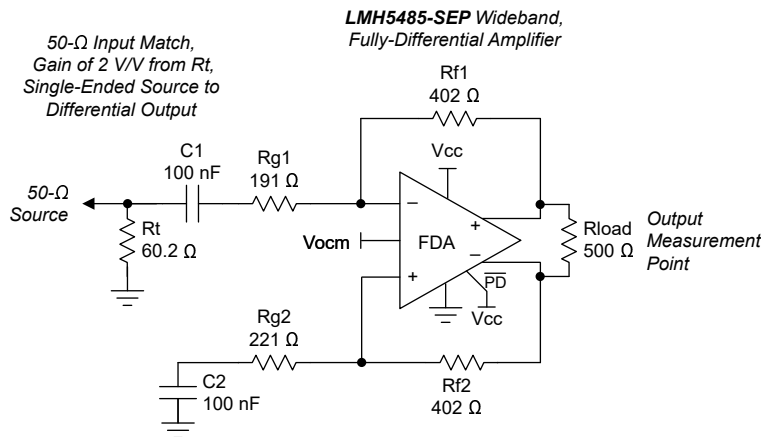
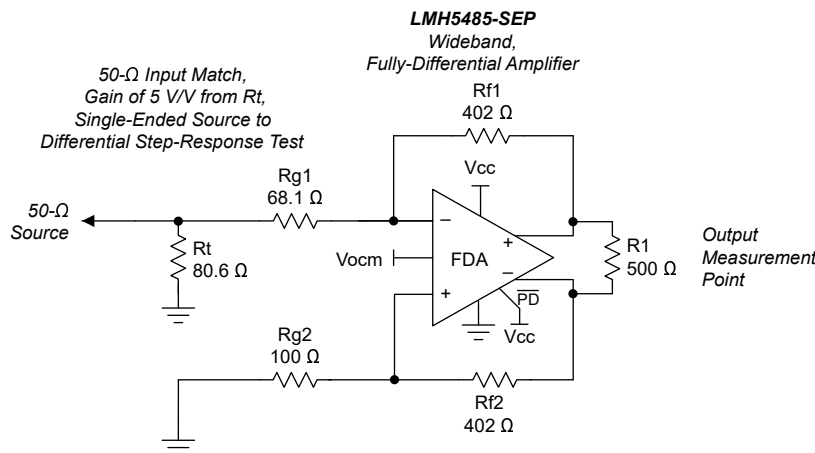

Figure 8-1. AC-Coupled, Single-Ended Source to a Differential Gain of a 2 V/V Test Circuit
Figure 8-2. DC-Coupled, Single-Ended-to-Differential, Basic Test Circuit Set for a Gain of 5 V/V
Single-ended input to differential output, simulated differential output impedance, see Figure 8-1
Single-ended input to differential output, gain of 2 (see Figure 8-1), simulated with 1% resistor, worst-case mismatch
Single-ended to differential, gain of 2 (see Figure 8-1) PSRR simulated to differential output
The LMH5485-SEP offers the advantages of a fully differential amplifier (FDA) design, with the trimmed input offset voltage of a precision op amp. The FDA is an extremely flexible device that provides a purely differential output signal centered on a settable output common-mode level. The primary options revolve around the choices of single-ended or differential inputs, AC-coupled or DC-coupled signal paths, gain targets, and resistor Value selections. Differential sources can certainly be supported and are often simpler to both implement and analyze. Examples of both AC and DC coupled single-ended to differential circuits is shown in Figure 8-1 and Figure 8-2.
Figure 8-1 shows how most characterization plots fix the R_f value at 402 Ω. This value is completely flexible in application, but the 402 Ω provides a good compromise for the issues linked to this value, specifically:
- Added output loading. The FDA appears like an inverting op amp design with both feedback resistors as an added load across the outputs (approximate total differential load in Figure 8-1 is 500 Ω || 804 Ω = 308 Ω).
The outputs offer near rail-to-rail output swing (0.2 V headroom to either supply), while the device inputs are negative rail inputs with approximately 1.2 V of headroom required to the positive supply. Figure 8-2 shows how this negative rail input directly supports a bipolar input around ground in a DC-coupled, single-supply design. Similar to all FDA devices, the output average voltage (common-mode) is controlled by a separate common-mode loop. The target for this output average is set by the V_{OCM} input pin that can be either floated to default near mid-supply or driven to a desired output common-mode voltage. The V_{OCM} range extends from a very low 0.91 V above the negative supply to 1.1 V below the positive supply, supporting a wide range of modern analog-to-digital converter (ADC) input common-mode requirements using a single 2.7 V to 5.4 V supply range for the LMH5485-SEP.
Going to the device input pins side, because both the source and balancing resistor on the nonsignal input side are DC blocked (see Figure 8-1), no common-mode current flows from the output common-mode voltage, thus setting the input common-mode equal to the output common-mode voltage.
Operating the LMH5485-SEP at a low DC noise gain, or with higher feedback resistors, can cause a lower phase margin to exist, giving the response peaking shown in Figure 10-3 for the gain of 0.1 (a 1/10 attenuator) condition. Although it is often useful operating the LMH5485-SEP as an attenuator (taking a large input range to a purely differential signal around a controlled-output, common-mode voltage), the response peaking illustrated in Figure 10-3 is usually undesirable. Several methods can be used to reduce or eliminate this peaking; usually, at the cost of higher output noise. Using DC techniques always increases the output noise broadband, while using an ac noise-gain-shaping technique peaks the noise, but only at higher frequencies that can then be filtered off with the typical passive filters often used after this stage. Figure 10-1 shows a simplified schematic for the gain of 0.1 V/V test from Figure 8-1.